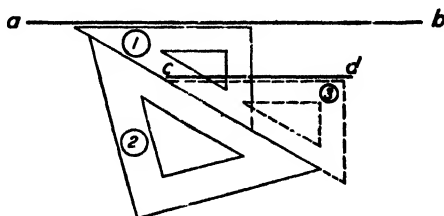

FIG. 1f.—Method of drawing two parallel lines with two triangles.
of lines that are horizontal or vertical. To draw a line parallel to an oblique line, proceed as illustrated in Fig. 1f. Set two triangles as shown, one of the legs of the 30-60° triangle in position (1) being parallel to ab . Then triangle (2) being held firmly in position, move the 30-60° triangle to position (3) and draw the line cd which is parallel to ab . There are several other ways in which this may be done.